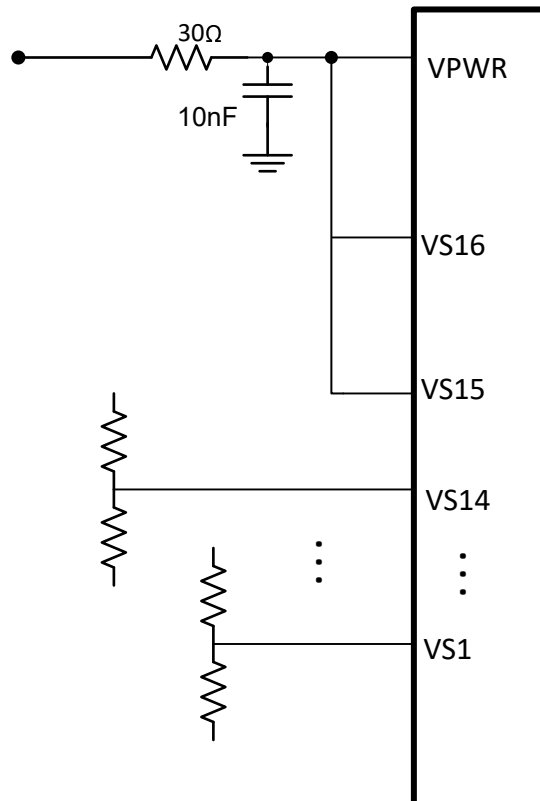

Figure 9-7. Unused Pins Tied to VPWR
- Short unused VS pins to VPWR as shown in Figure 9-7.
Unused VS pins need to be tied to VPWR as shown in Figure 9-7.